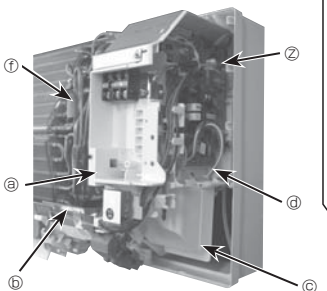
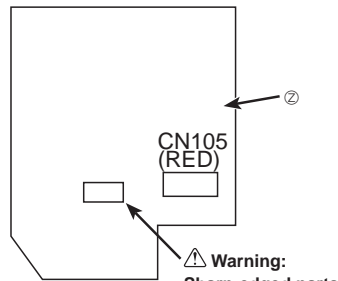

Fig. 6-5
Fig. 6-6
- ⑧ Remove the cable guide. (Fig. 6-5)
- ⑩ Remove the liquid pipe thermistor (TH2). (Fig. 6-5)
- ⑪ Tear off the tape partly of vane motor and loosen the cord. (Fig. 6-5)
- ⑫ Loosen the cord of the fan motor. (Fig. 6-5)
- ⑬ Pull out the electrical box toward you.
- ⑭ Connect the electrical cord of radio frequency interface securely to CN105 (RED) on indoor controller board. (Fig. 6-6)
- ⑮ Replace the removed parts.
- (R) Front grille
- (S) Screws
- (T) Screws and screw caps
- (U) Screw of the corner box
- (V) Hooks
- (W) Screw of electrical box cover (side)
- (X) Screw of electrical box cover (Front)
- (Y) Water cut
- (Z) Indoor controller board (I.B)